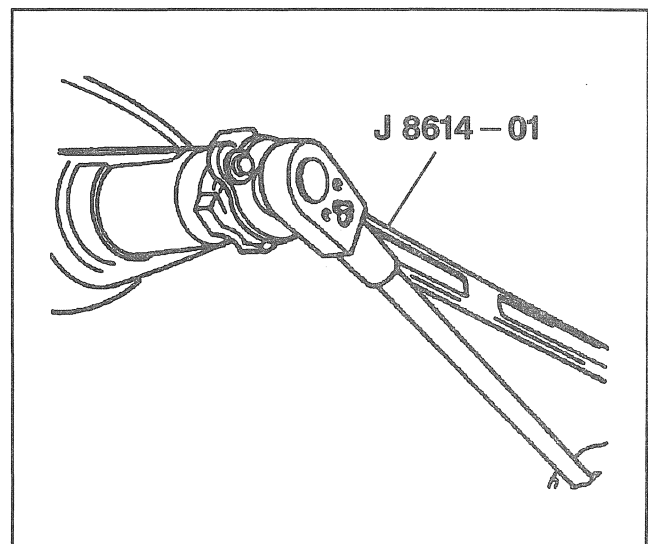

Figure 23—Tightening Pinion Nut
- Nut (12) to 637 N.m (470 lb. ft.) while holding the pinion with J 8614-01 (Figure 23).